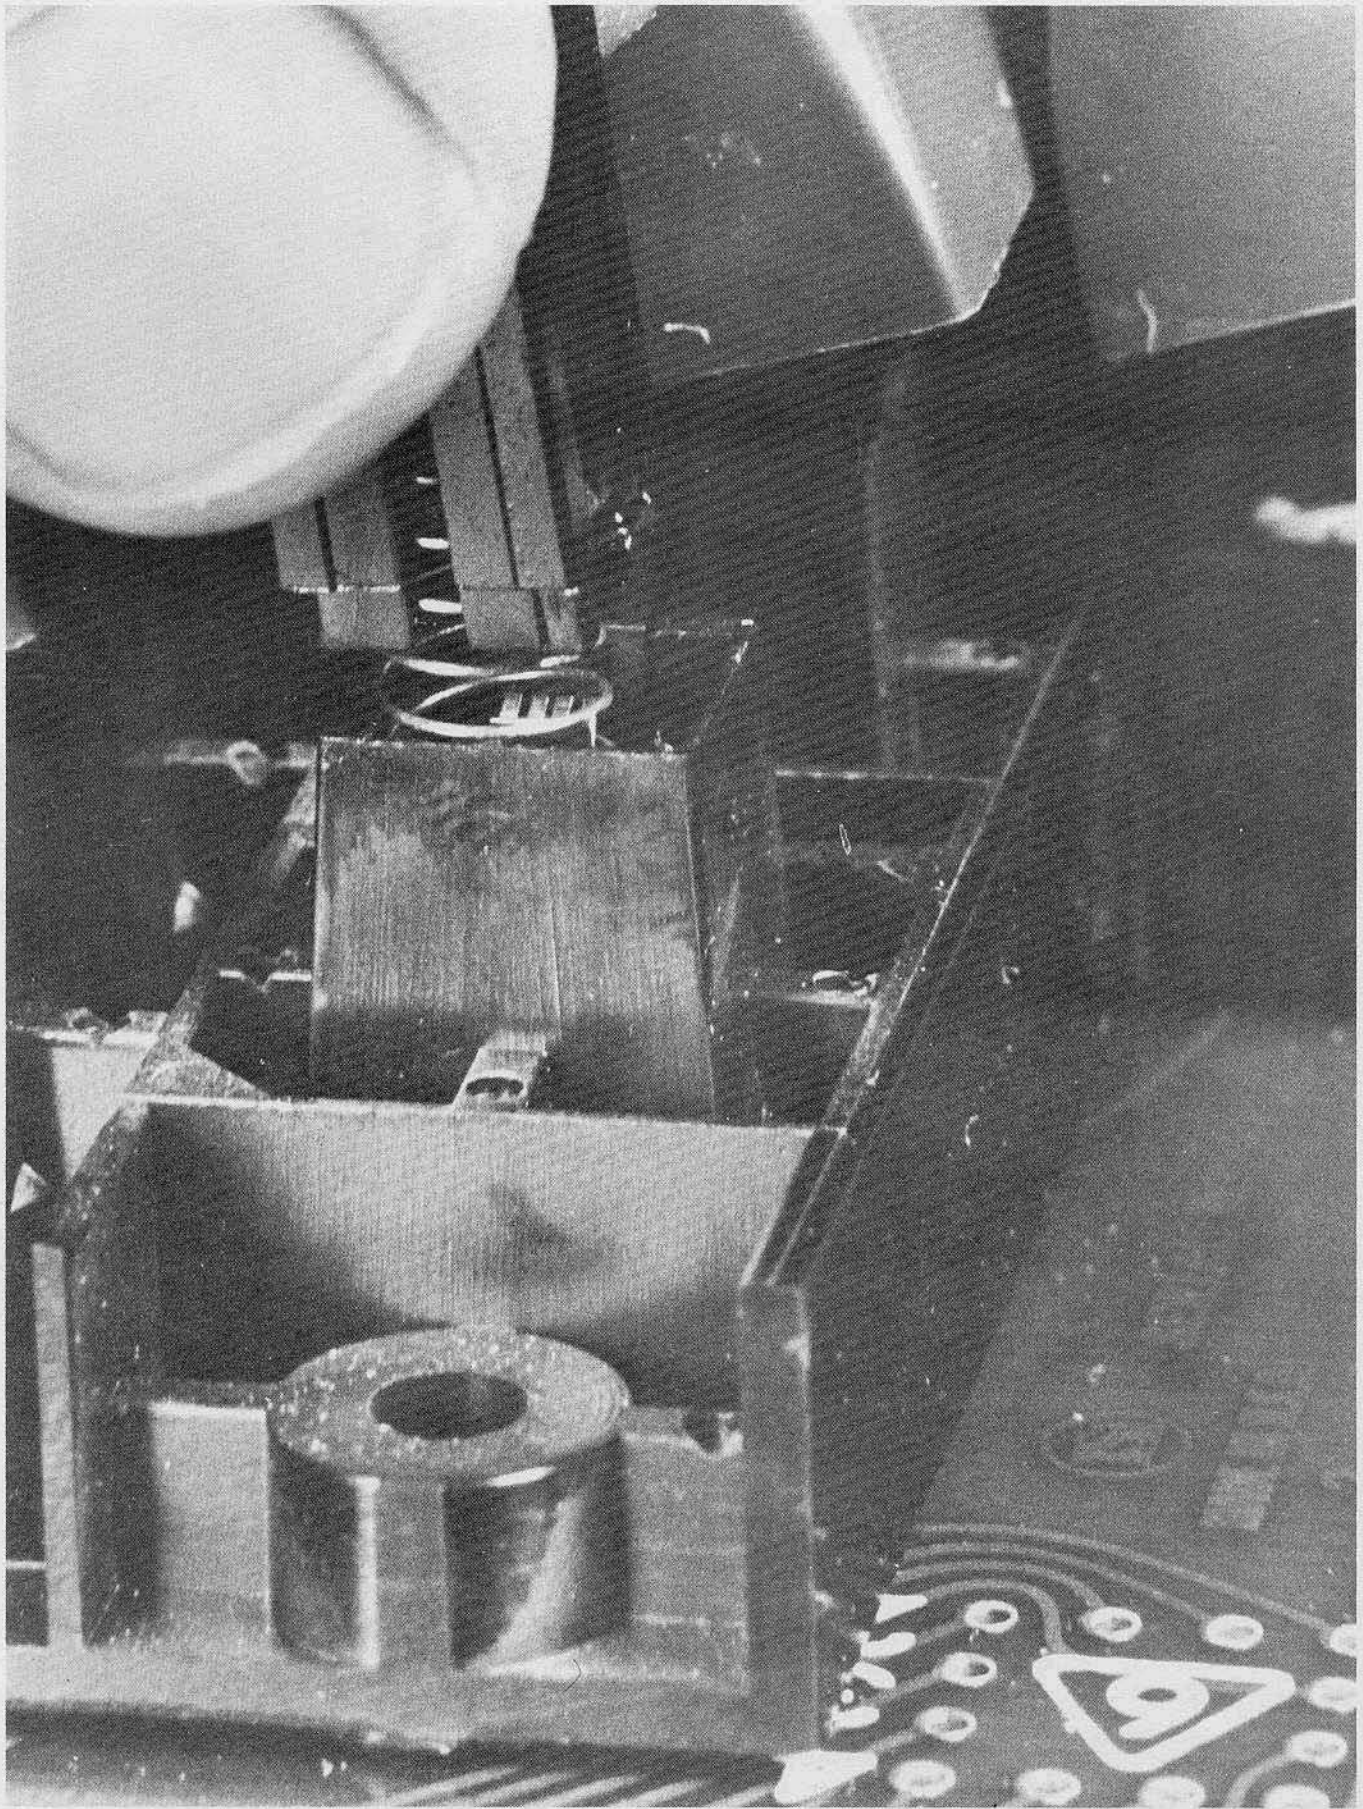

Figure 5-10.
- l. Replace the plunger making sure that the bar is parallel with the contact opening. Work the plunger down slowly, separating the contacts with the crossbar of the plunger (see figure 5-10).